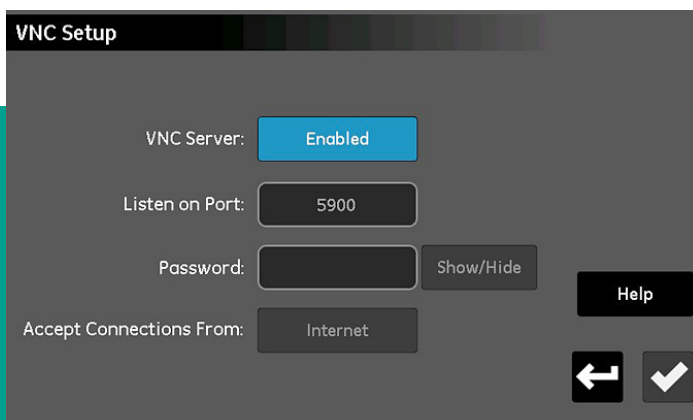

Figure 72: VNC setup screen
1. From the *configuration menu* screen (see *figure 52* on page 59), tap the **VNC** button to open a *VNC setup* screen similar to *figure 72* below.